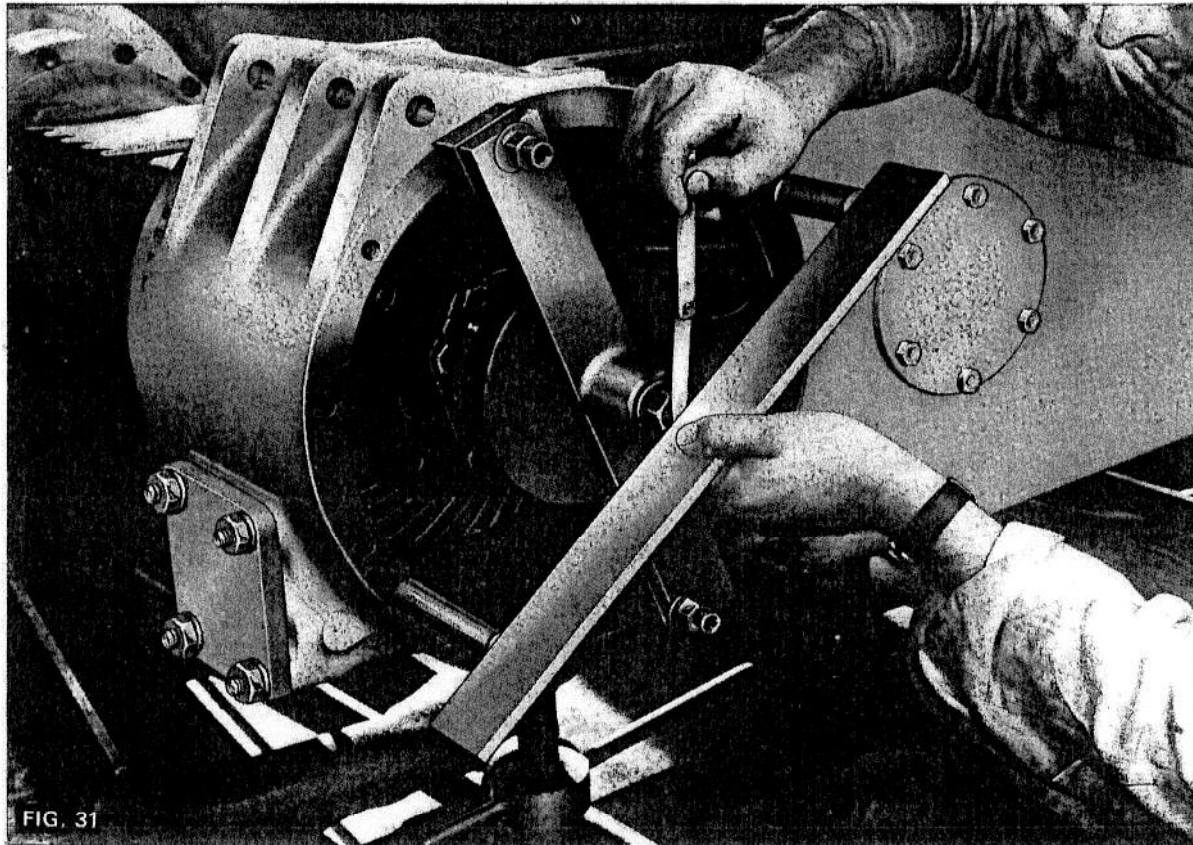

FIG. 31
9. (Fig. 31) Place the straight edge across the two setting blocks and measure the distance between the centraliser gauge pin and the straight edge. This distance is the shield thickness required behind the bearing cup.